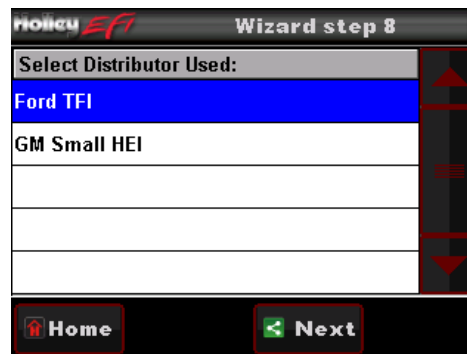

Figure 16
10. Select “GM Small HEI” or “Ford TFI” (Figure 16). Proceed to step 12.